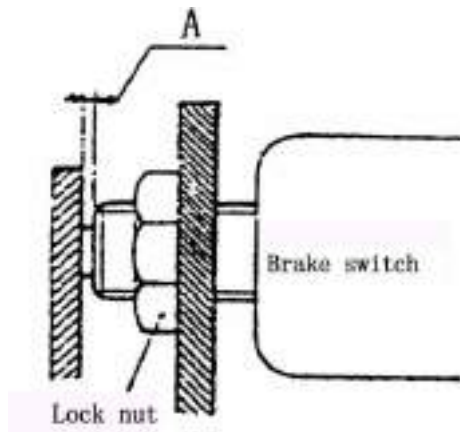

Fig.2-5 Brake switch adjustment
2.2.3 Adjust the brake switch (Fig.2-5)